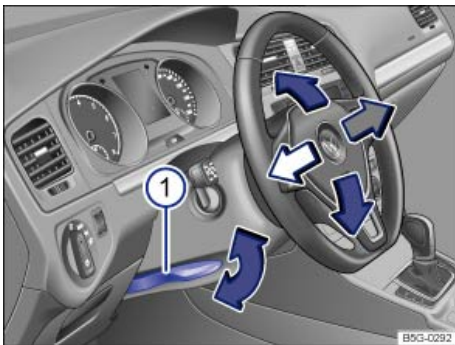

Fig. 44 Manual adjustment for the steering wheel position.
- Push down on the lever ⇒ fig. 44 \(1\).